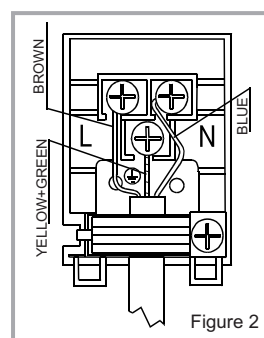

Figure 2
- The earthing cable must be connected via the screw with the earthing mark. Supply cable connection must be as shown in Figure 2. If there is no earthed outlet conforming to regulations in the installation environment, call Caple Service immediately.